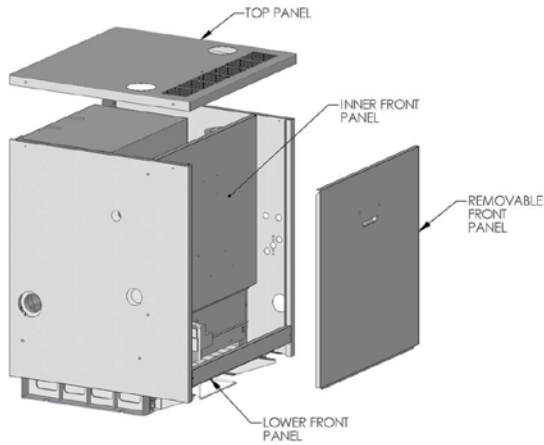

Figure 2.7: Jacket Panel Attachment
5. Position the Inner Front Panel between the side panels and align the mounting holes on the side flanges with the clearance holes on the side panels. Attach with four #10 x 1/2" sheet metal screws provided. See Figure 2.7.
6. Attach the Lower Front Panel to the bottom front of the side Jacket Panels with two #10 x 1/2" sheet metal screws. See Figure 2.7.
8. Position the Top Jacket Panel so that the flanges overlap the Side Jacket Panels and the air louvers are at the front of the boiler. Attach with six #10 x 1/2" sheet metal screws. See Figure 2.7.